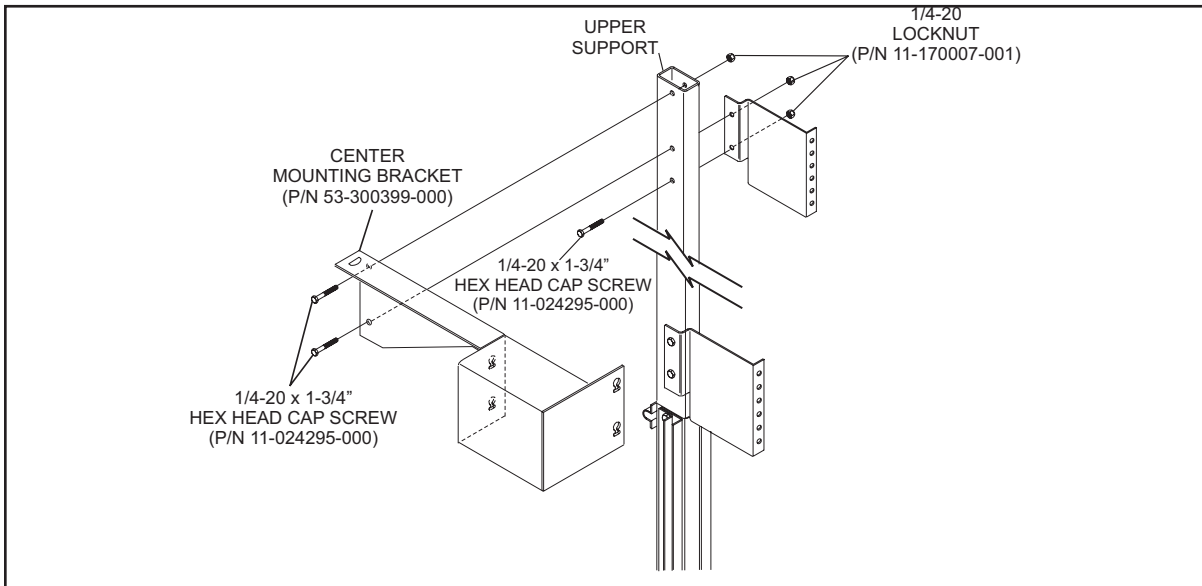

Figure 32
1. Install the intermediate support assembly “D” projection screen mounting bracket and upper graphic standoff. Refer to *Figure 32*.